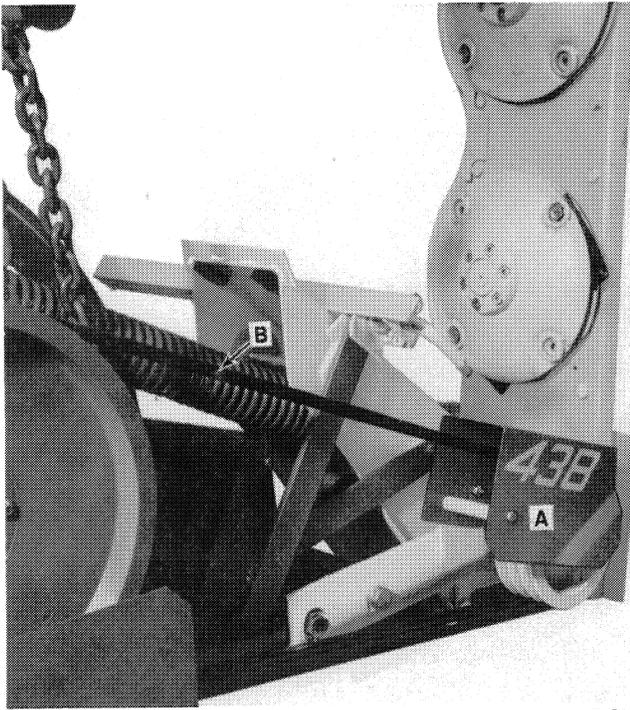

FIGURE 3
3. Remove the belt shield A, Figure 3. Remove the drive belts B from the cutter bar drive sheave.